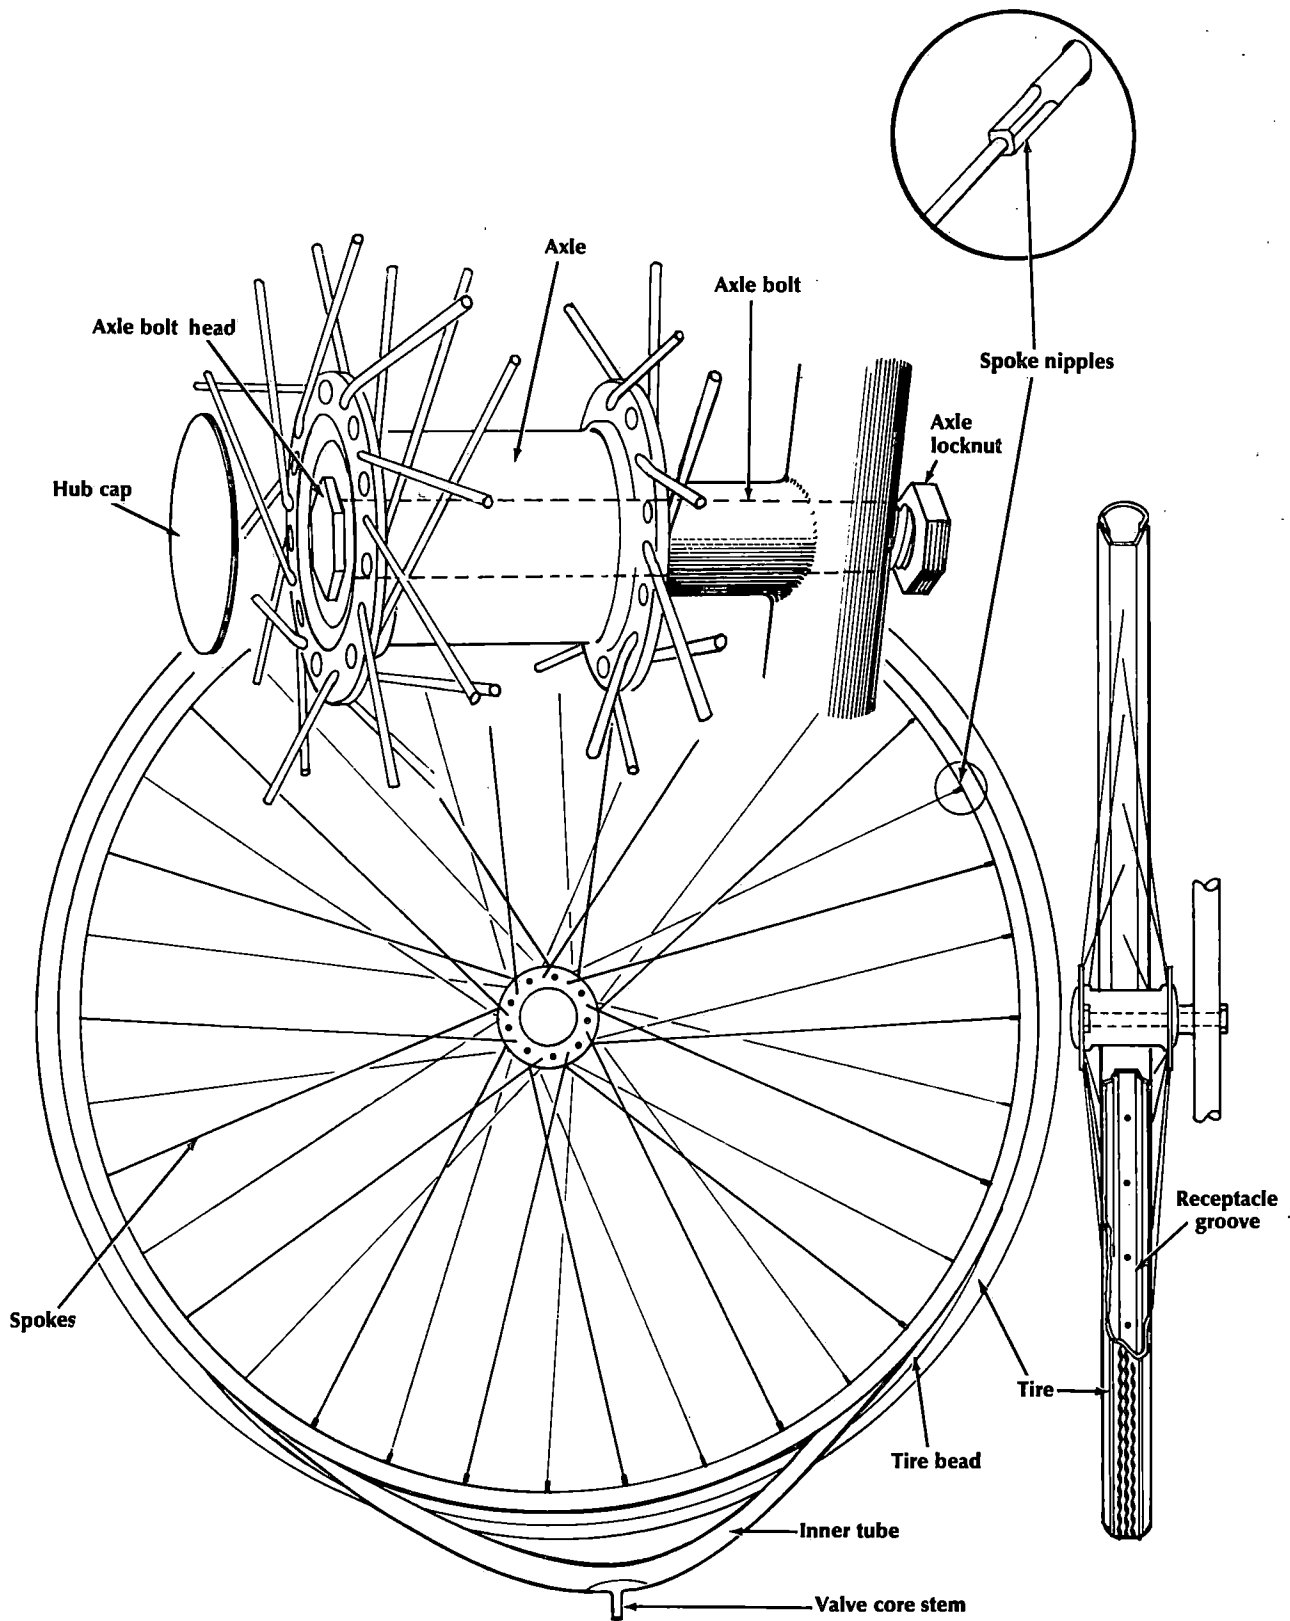

Figure 1. Tire and Tube
Parts (See figure 1):
2. Remove the valve stem nut. (See figure 1, under "Parts")